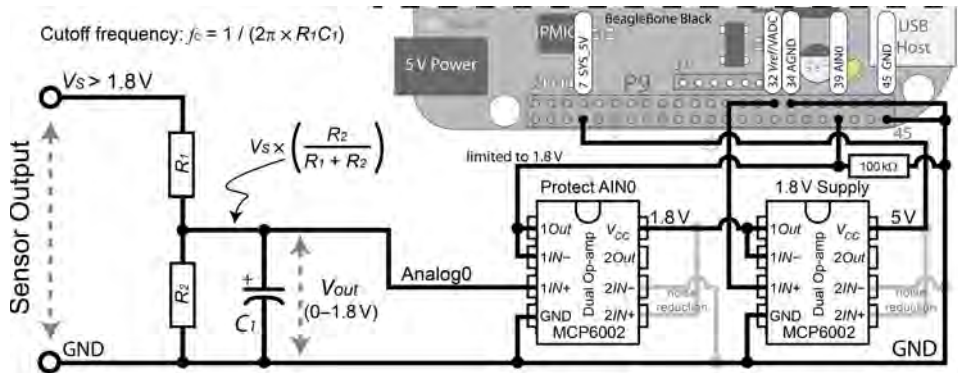

Figure 9-11: Scaling an input signal using voltage division with op-amp ADC protection in place
Figure 9-11 illustrates a voltage division circuit and its integration with the 1.8V op-amp protection circuitry discussed in the last section. Voltage follower circuits also act as *buffer* circuits. The maximum input impedance of the AM335x ADC inputs ranges from about 76k Ω at the highest frequencies to many megaohms at low frequencies.¹ The voltage divider circuit will further load the sensor output impedance (perhaps requiring further unity-gain buffers before the voltage divider). However, the MCP6002 will act as a buffer that prevents the sensor circuit from exceeding the maximum input impedance of the ADC (remember that ideal voltage follower circuits have infinite input impedance and zero output impedance). There are some important points to note about this circuit:
- With multi-op-amp packages, unused inputs should be connected as shown in Figure 9-11 (in light gray) to avoid random switching noise.